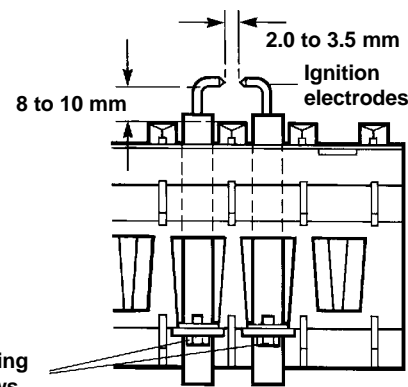

Fig. 22
5. **Ignition electrodes - Fig. 22**
Fit the new electrodes, ensuring they are positioned correctly and the spark gap is correct (see Fig. 22).